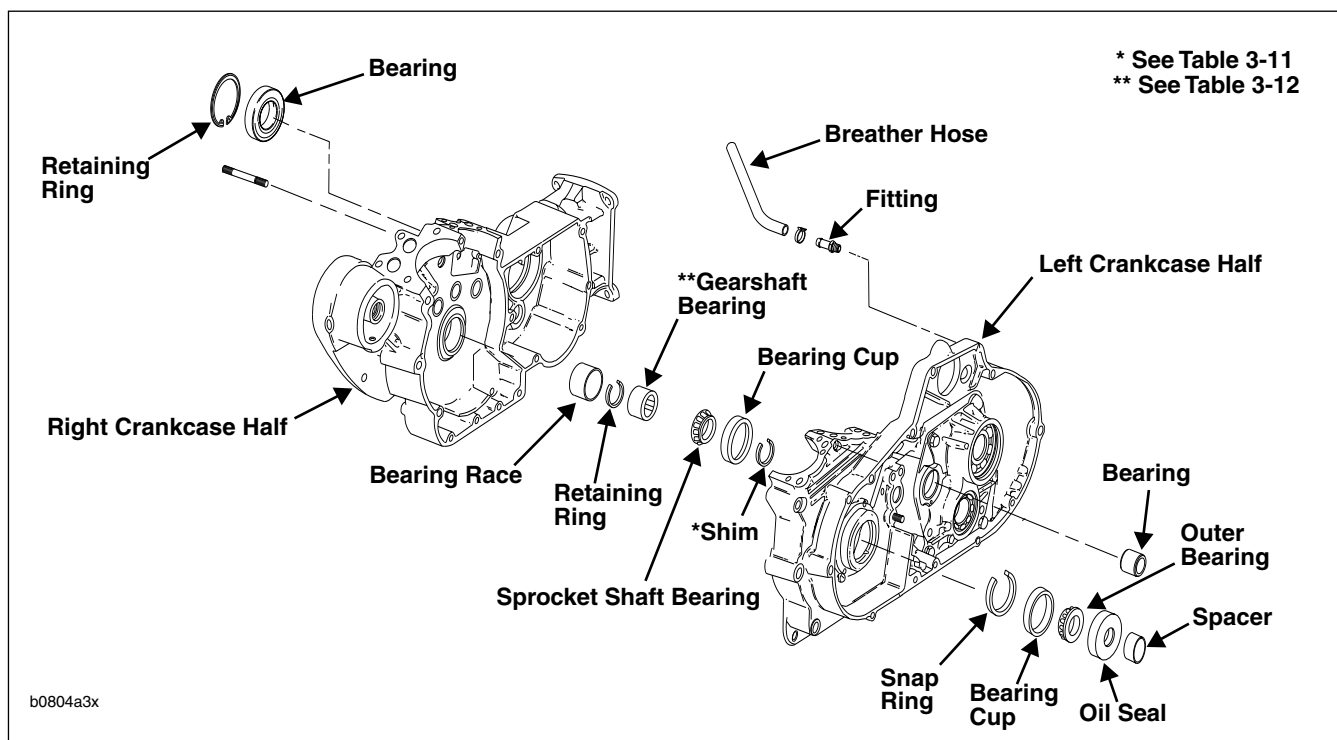

Figure 3-78. Crankcase Assembly
- c. Replace bearing inner shim (See Figure 3-78.) if difference (end play) in indicator readings is not 0.001-0.005 in. (0.025-0.127 mm). Choose shim from Table 3-11.
See Figure 3-78. A pressed-in bushing in the right crankcase half is the outer race. The inner race is pressed on the pinion shaft.